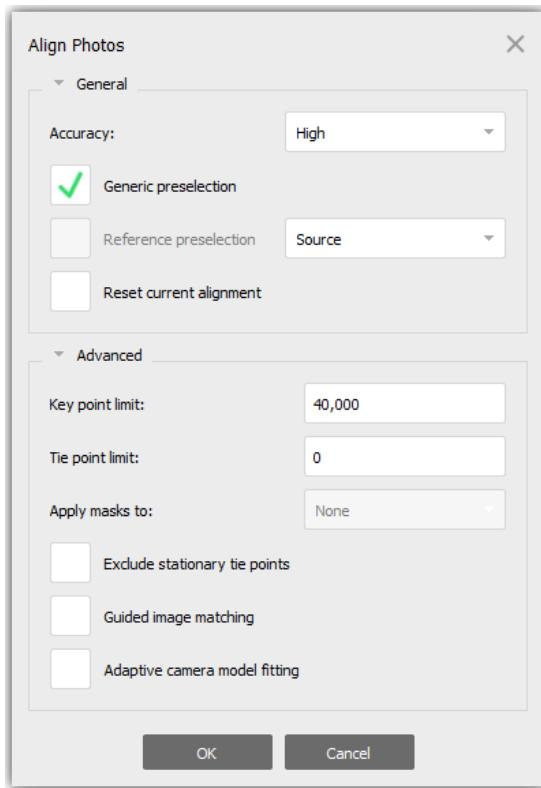

Figure 4.7 Screenshot of Align Photos dialog.
2. Click Workflow → Align Photos (Figure 4.7)